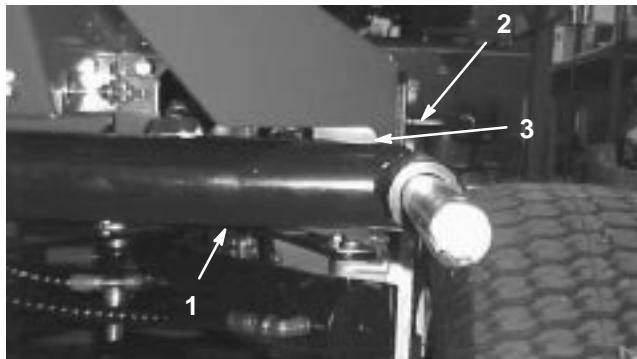
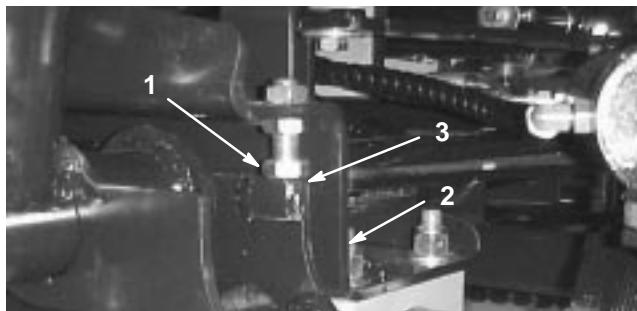
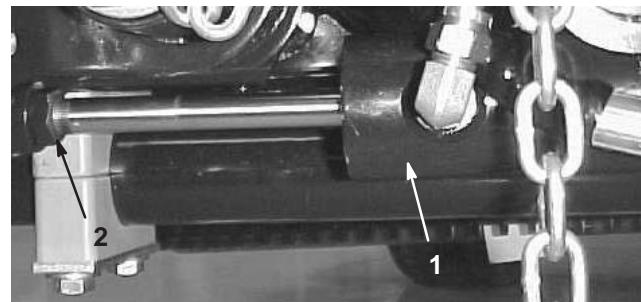

Figure 10
Figure 11
Figure 12
1. Start the engine, raise the decks, and check to make sure that the clearance between each lift arm and the floor plate bracket is .18-.32 in. (5–8 mm) (Fig. 10). If the clearance is not in this range, back off the stop bolts (Fig. 11) and adjust the cylinder to attain clearance. To adjust the cylinder, back off the jam nut on the cylinder (Fig. 12), remove the pin from the rod end, and rotate the clevis. Install the pin and check the clearance. Repeat the procedure if required. Tighten the clevis jam nut.
2. Check to make sure that the clearance between each lift arm and stop bolt is 0.005–0.040 in. (0.13–1.02 mm) (Fig. 11). If the clearance is not in this range, adjust the stop bolts to attain clearance.